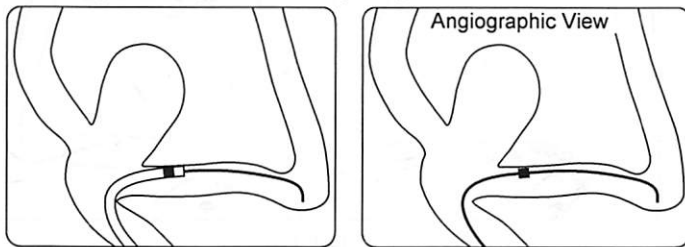

Figure 2
4. Following the Instructions for Use for the eCLIPs™ Microcatheter, navigate an eCLIPs™ Microcatheter 1.5-2.0cm distal of the aneurysm neck (as shown in Figure 2).